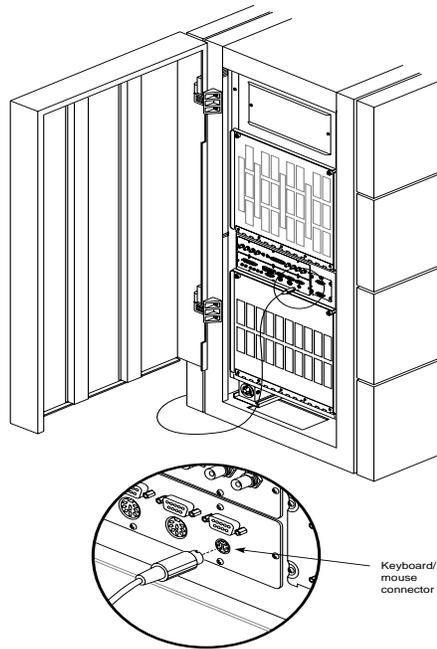

Figure 3-7 Keyboard Connection
2. Attach one end of the keyboard cable to the remaining keyboard receptacle. Attach the other end of the keyboard cable to the keyboard connector on the main I/O panel (see Figure 3-7).